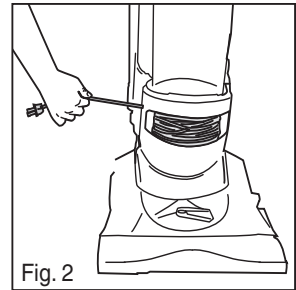

Fig. 2
**Do not pull past red line** (Fig. 2).